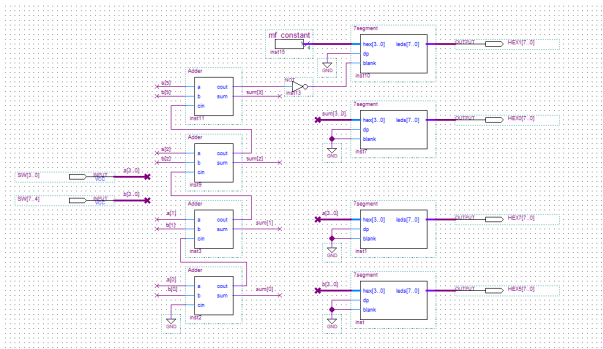

Figure 7: 4-Bit Adder
seen in Figure 7). However, if the "blank" input is set to high, it will just display 0. To display the last carry for sums larger than 15 (F), an inverter is added to the carry bit of the last adder. Then when the carry is high, the blank input is low and HEX1 displays "1".